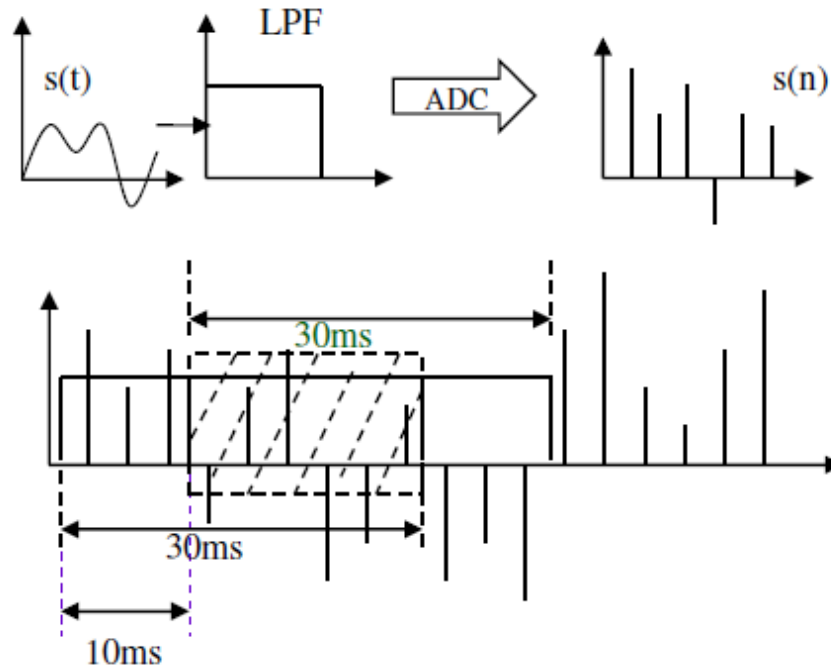

Fig. 8.16: LPF, ADC and windowing
- The sampled signal is processed by dividing it into set of samples of 30ms duration with 20ms overlap of the windows. The same is shown in fig. 8.16